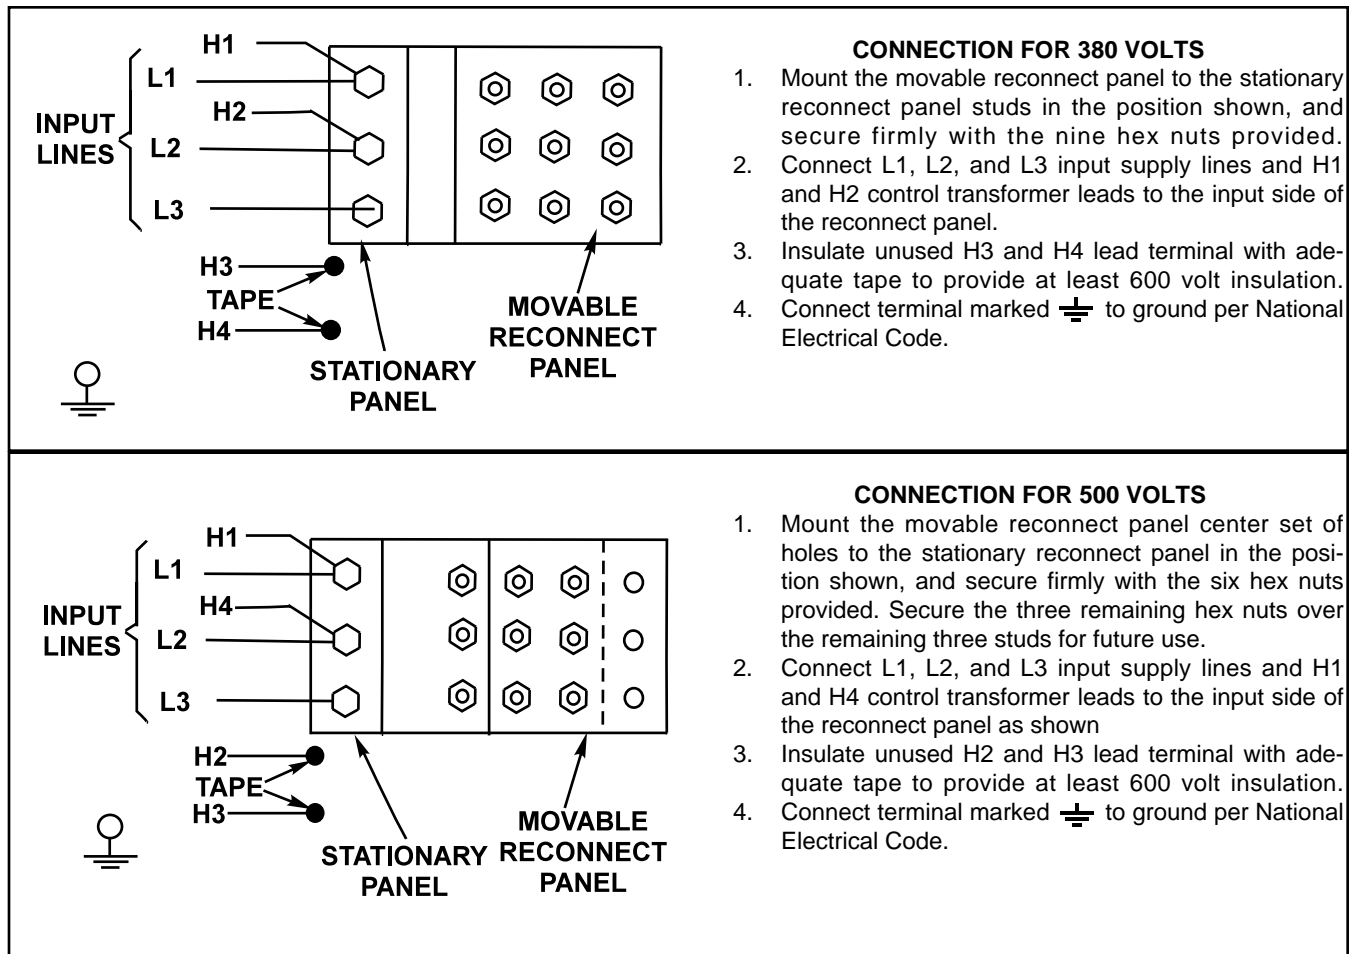

FIGURE A.3c -Input Connection Diagram
3. For 380/500 Dual Voltage Machines, refer to Figure A.3c.